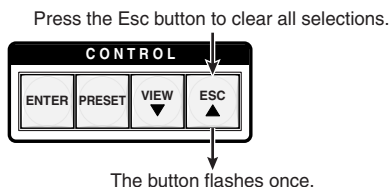

Figure 3-54 — Clear all selections
1. Press and release the Esc button (figure 3-54).